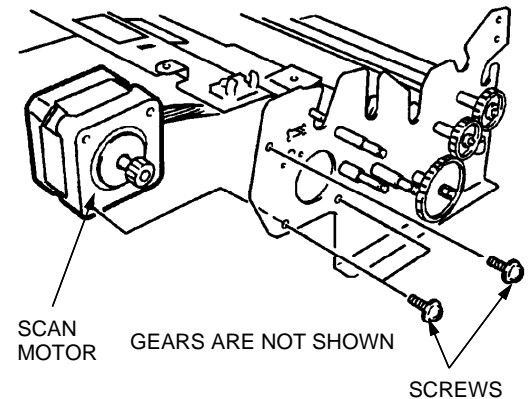

Figure 4. Scan motor
10. Remove the three screws retaining the scan motor to the rear frame (figure 4).